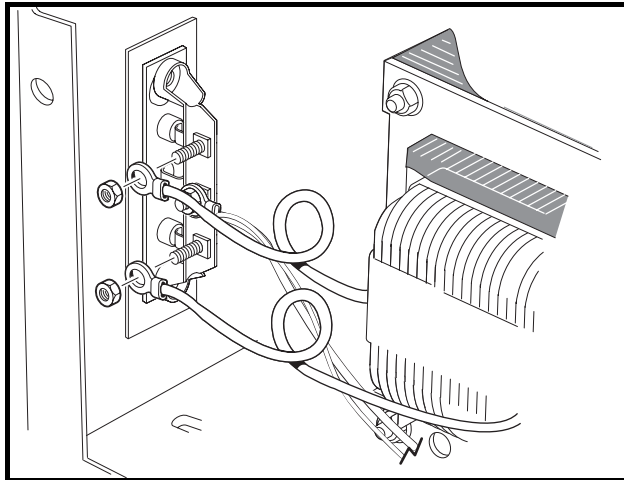

Figure 5-15 Remove Secondary Coil Wires From Heatsink
3. Disconnect transformer secondary coil wires from the heatsink (**Figure 5-15, Page 5-21**).
3. Remove the transformer (tan) secondary coil wire from the upper terminal of the heatsink (**Figure 5-15, Page 5-21**).